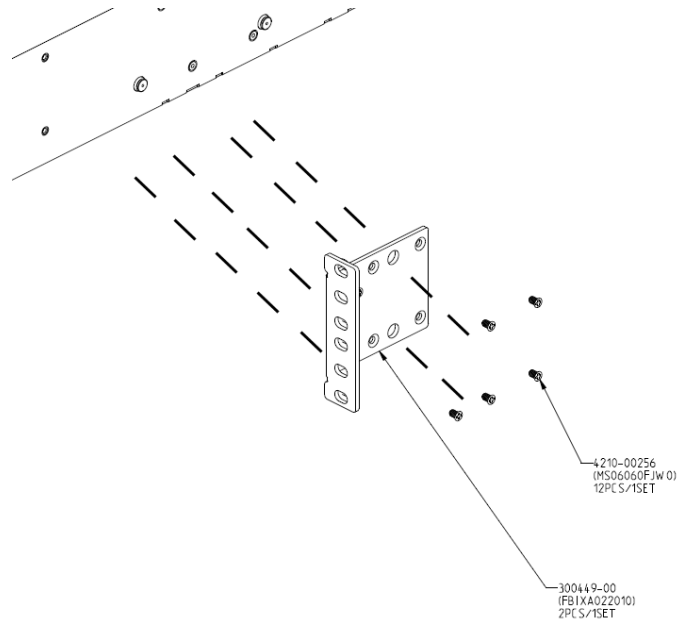

Figure 21: Attaching a Short Mounting Bracket (Ear): Middle of Switch
- a. Position the bracket so that the flange (ear) is positioned slightly more than halfway between the front and back of the switch, as shown in Figure 21.